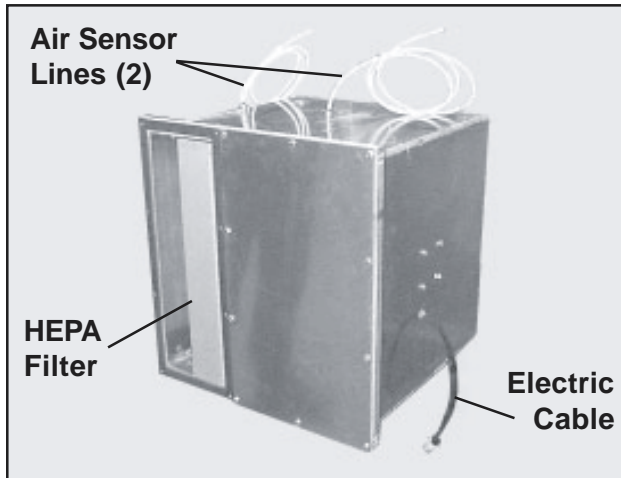

Figure 5. Typical Blower Box
There are two blower boxes in the Air Handling System: one for intake, and one for exhaust (Figure 5).
4. Pass the two air sensor lines from the top of each blower box (Figure 5) through the cable plate from rear to front. The lines are numbered as follows: